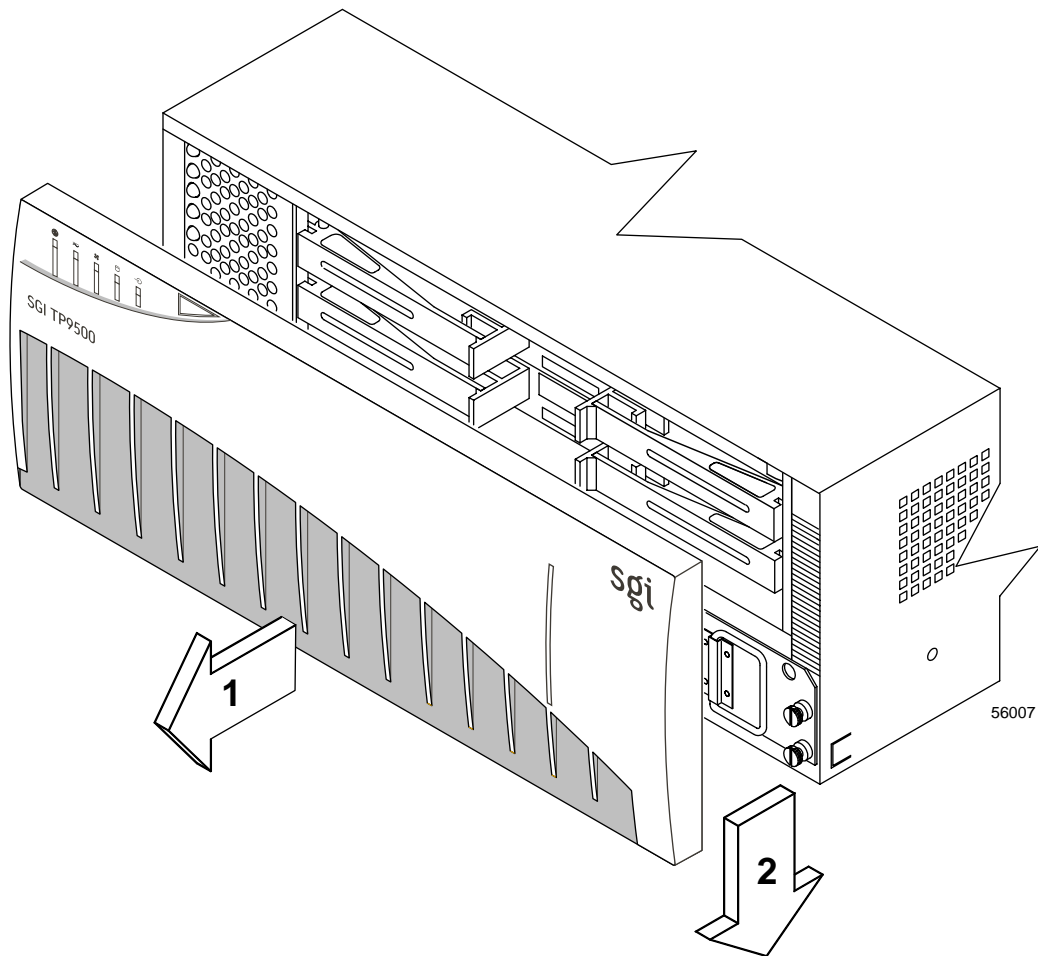

Figure 3-1 Removing the Front Cover of the Controller Enclosure
To access the controller enclosure components, cables, indicator lights, and switches, you must remove the front cover (see Figure 3-1).
1. To view all of the indicators, remove the front cover of the controller enclosure (see Figure 3-1 on page 30) and remove the rear access panel on the rack.
4. If all indicators show a “normal status,” replace the front cover (see Figure 3-1 on page 30). If the indicator lights show a fault, run the storage management software (TPSSM) to diagnose and repair the problem.